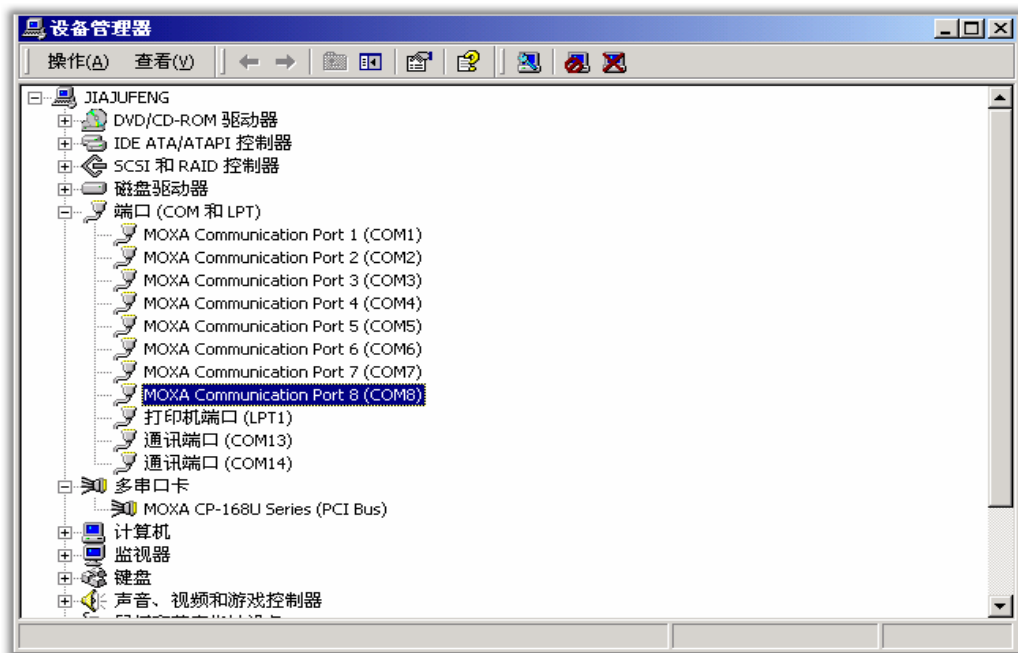
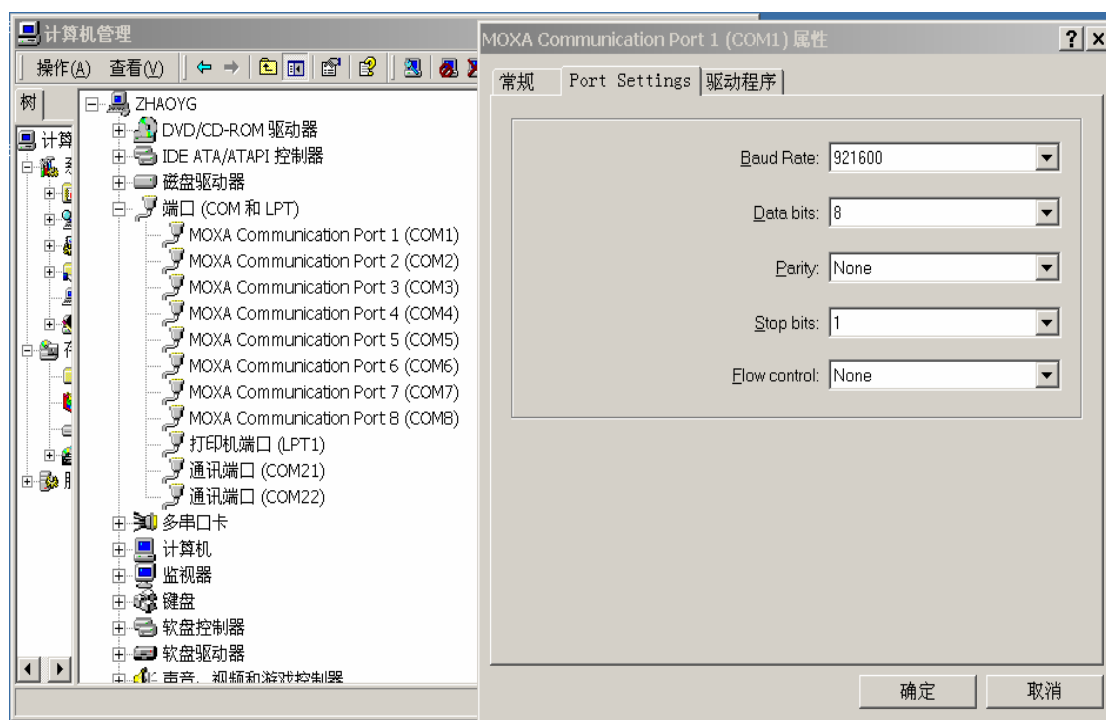

Figure 2
Figure 3
If you use the MOXA CARD to download. Insert the MOXA Card into a free PCI slot, and connect the 1-8 ports cable, Then install the MOXA driver .After those steps completed, you will see in the equipments manager shown as the figure 2. It means that the installation completes successfully. Then change the baud rate of all the MOXA Communication port to 921600 as shown in the figure 3.
Attention: Before installing the MOXA card driver, you can adjust the COM setup by the equipments manager. In other words, you can set the origin ports into COM21 & COM22 as shown in the figure 3. Thus, after installing the driver of MOXA, the 8 ports of MOXA to be used follow the 1-8 sequence. It is easy to identify. Certainly, the customer can also perform the above steps in case of 16 ports.
- * **Serial port:** Set the serial port according to the figure 2.